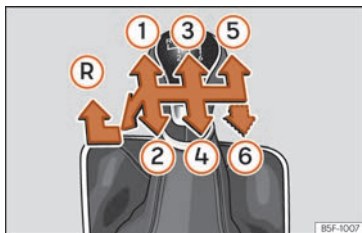

Fig. 43 Gear shift pattern of a 5 or 6-speed manual gearbox.
The position of the gears is indicated on the gearbox lever »» **Fig. 43**.
»» **Fig. 43 (R)**.